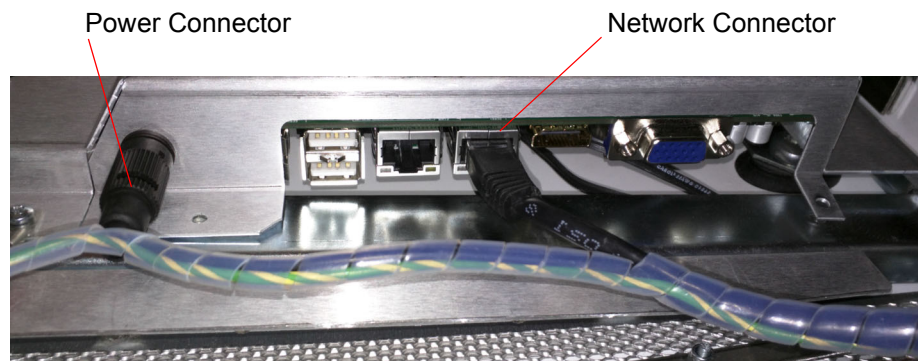

Figure 67 Door PC Power and Network Connectors
10. Refit the Earth cable to the Spade connector and then fit the Power and Network connectors (see Figure 67).